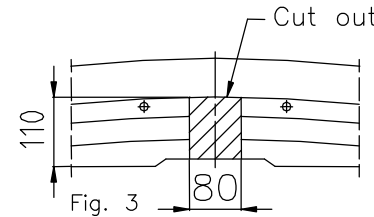

Fig. 3
3. To the left and right chassis member slip sleeve  $L=85\text{mm}$  (pos. 10), see fig.
4. To drilled holes put sleeves  $L=51,5\text{mm}$  (pos. 9).
5. To the inside of chassis members and rear part of the car put brackets (pos. 4 and 5) and fix using bolts  $M10 \times 120\text{mm}$  (pos. 12) through sleeves and bolts  $M10 \times 35\text{mm}$  (pos. 14) through nuts on the jib (pos. 8).
6. Put the main bar of the towing hitch (pos. 1) on protruding elements (bolts) of removed metal reinforcement and fix using original nuts  $M8$  (from reinforcement) and using  $M10 \times 90\text{mm}$  (pos. 13) - see fig.
7. Elements of the towing hitch (pos. 6 and 7) fix loosely to the original tow handle, and next through holes (pos. A) of ball brackets fix using bolts  $M10 \times 30\text{mm}$  (pos. 15).
8. Fix body of the automat (pos. 23) and the socket plate (pos. 3) using bolts  $M12 \times 25\text{mm}$  (pos. 11) from accessories. Place tow-ball (pos. 2) according to supplied instruction.
9. Assemble a cover plate and a bumper (cut out its fragment - see fig. 3 and 4).